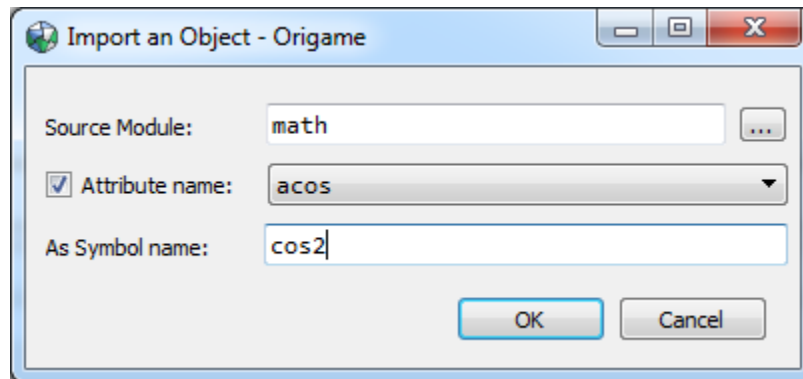

Fig. 3.34: The Import an Object dialog allows objects to be imported and their symbol specified.
- Press the *Add...* button to launch the *Import an Object* dialog shown in Figure 3.34.